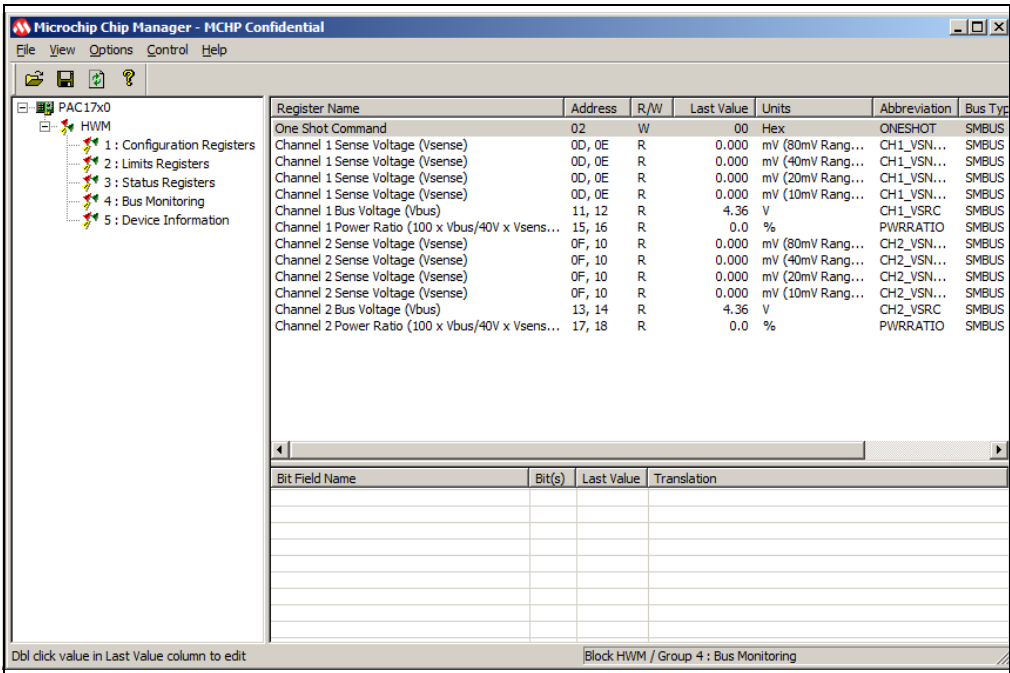

FIGURE 4-2: Adding Registers to Plot.
- 1. To plot a register, right-click the desired register name or value. Select the “Add Register(s) to Plot” from the context menu (see Figure 4-2) to add the register or value to the plot list.